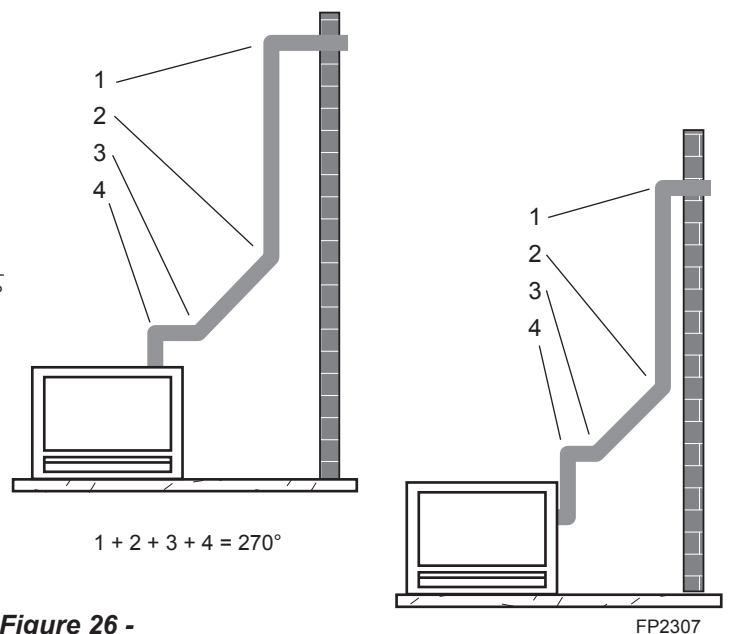

Figure 26 - Maximum Elbow Usage
- The maximum number of 45° elbows permitted per side wall installation is two (2). These elbows can be installed in either the vertical or horizontal run.
- The maximum number of elbow degrees in a system is 270°. *Figure 26*